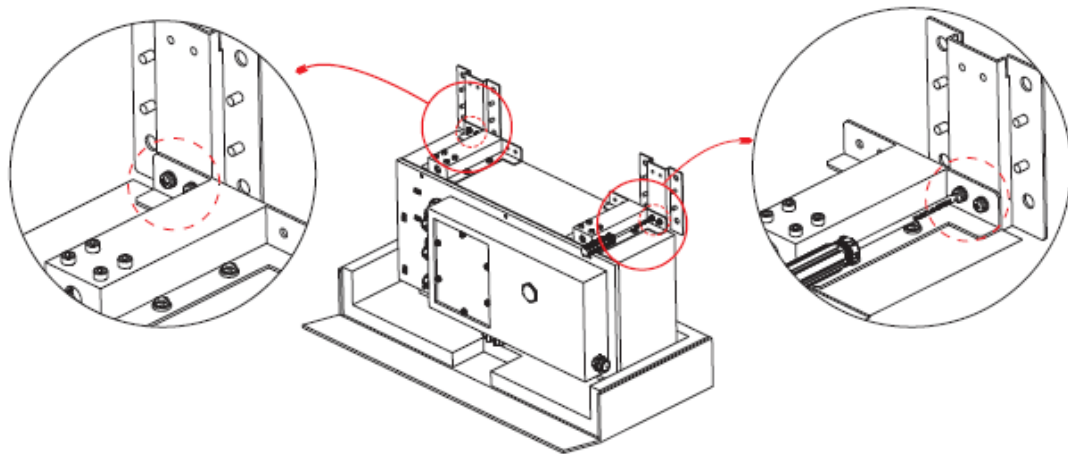

Figure 12 Assembling Battery Brackets
Step 3: Use a screwdriver to assemble the battery mounting bracket on the outside of the battery, as Figure 12 shows.